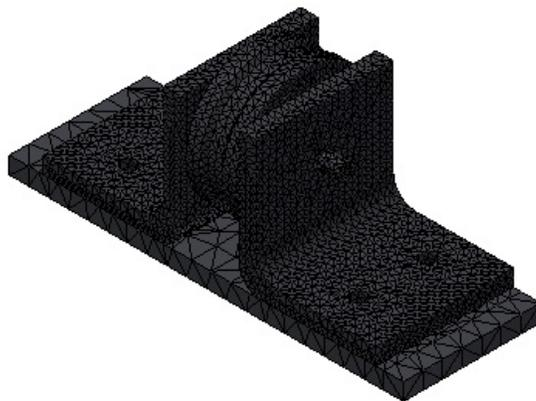

Figure 18-74 The update meshed view of the components
4. To apply the mesh modifications to the components, choose the **Update Mesh** option from the shortcut menu displayed on right-clicking on the **Mesh** node in the Design tree; the mesh component is updated, as shown in Figure 18-74.